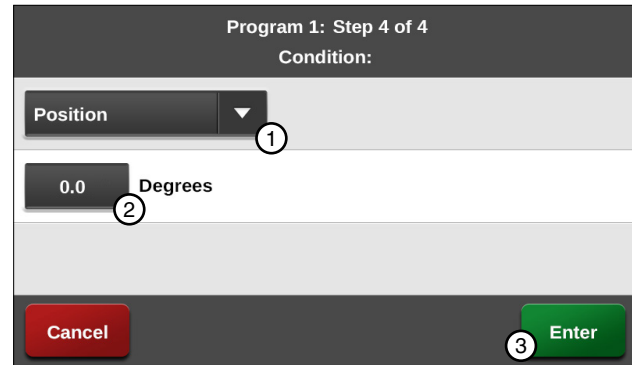

Figure 110-1 1. Position Condition 3. Enter
11. Program the position condition for this step. Refer to Figure 110-1.